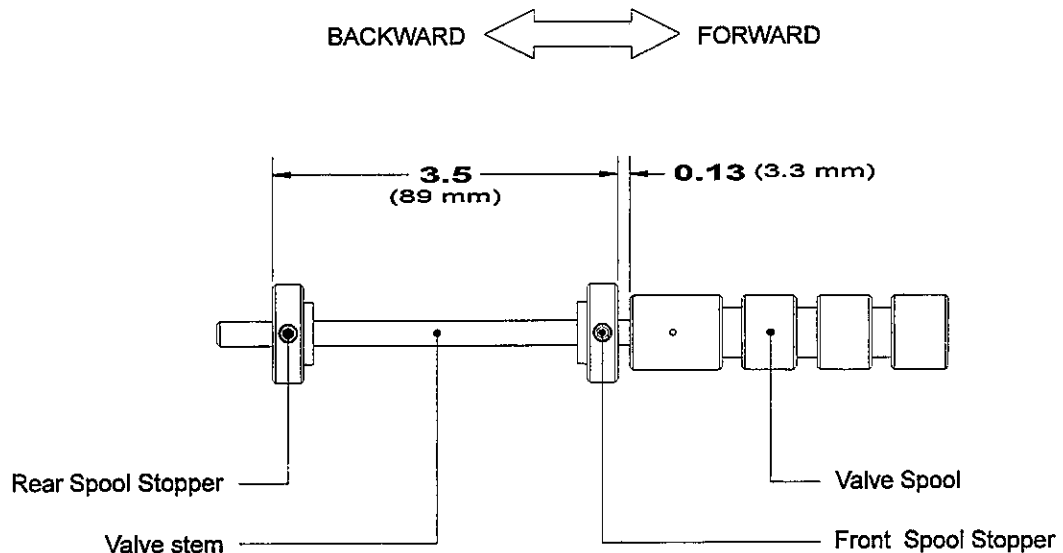

Figure 2.10 - Spool valve assembly illustrating the initial settings for the front and rear spool stoppers. Arrow indicates shuttle feed plate movement.
3. Adjust the front spool stopper as per the initial setting illustrated in Figure 2.10; tighten lightly onto the valve stem with a 3/32" hex key. Repeat for the rear spool stopper.
1. Once the proper position has been achieved for the front spool stopper, it is now necessary to adjust the rear spool stopper such that the vacuum shuts off the instant the lead edge of the vacuum feed plate is 1/4" (6 mm) past the center of the feed rollers. With the initial rear spool stopper setting as per Figure 2.10, rotate the handwheel slowly until the vacuum is just OFF and is no longer supplied to the vacuum feed plate. Measure the position of the lead edge of the vacuum feed plate with respect to the center of the feed rollers.